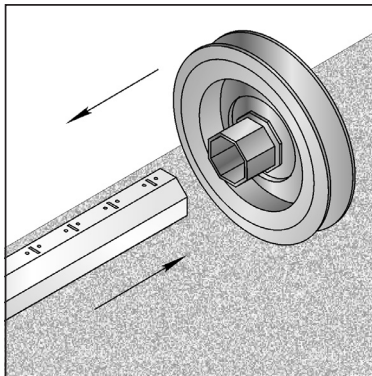

Fig. 13
- install RP pulley assembled with BB12x28 ball bearing in the roll tube at the side of the drive (Fig. 13);